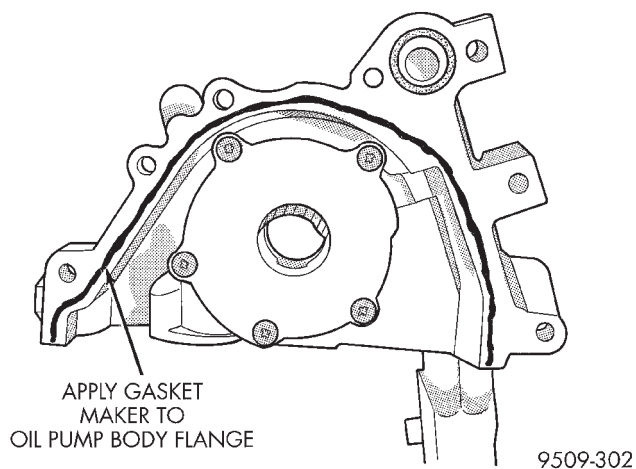

Fig. 79 Oil Pump Sealing
- (1) Make sure all surfaces are clean and free of oil and dirt.
- (2) Apply Mopar Gasket Maker to oil pump as shown in (Fig. 79). Install oil ring into oil pump body discharge passage.
- (3) Prime oil pump before installation.
- (4) Align oil pump rotor flats with flats on crankshaft as you install the oil pump to the block.